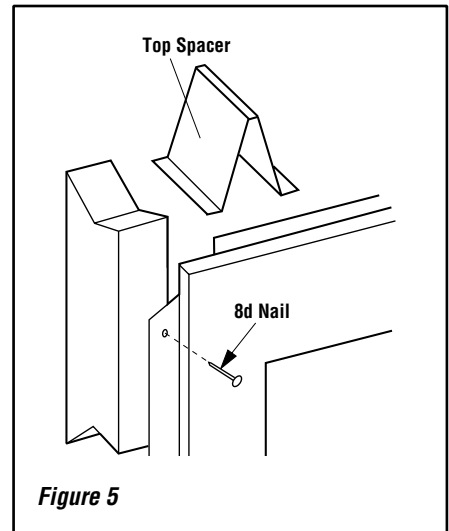

Figure 5
Step 3. Fireplace should be secured to side framing members using the full length nailing tabs at the top and bottom of the fireplace front face. Use 8d nails (**see Figure 5**).
Under no circumstances shall the firebox top spacers be removed or modified (see Figure 5). The header may be in direct contact with the top spacers but must not be supported by them, notched or altered to fit around them.